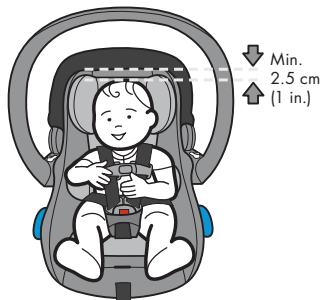

Figure 1
- ✓ The top of the child's head is at least 2.5 cm (1 in.) below the top of the Carrier Seat Back, as shown in **Figure 1**.